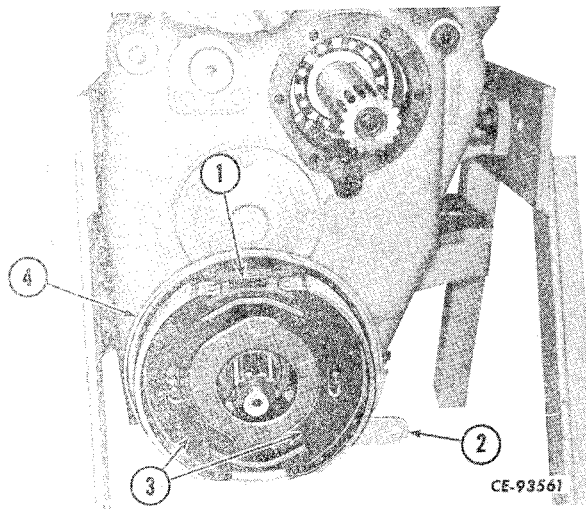

Figure 4-21
Remove brake shoe springs (1, Fig. 4-21) and shoes (3). Remove lever (2) from backing plate (4).